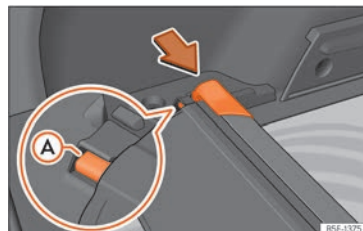

Fig. 129 In the luggage compartment: space to store the retractable shelf.
- Press the head of the retractable shelf in the direction of the arrow until it engages in its housing »» Fig. 129. Make sure that slide **A** fits into the corresponding housing.